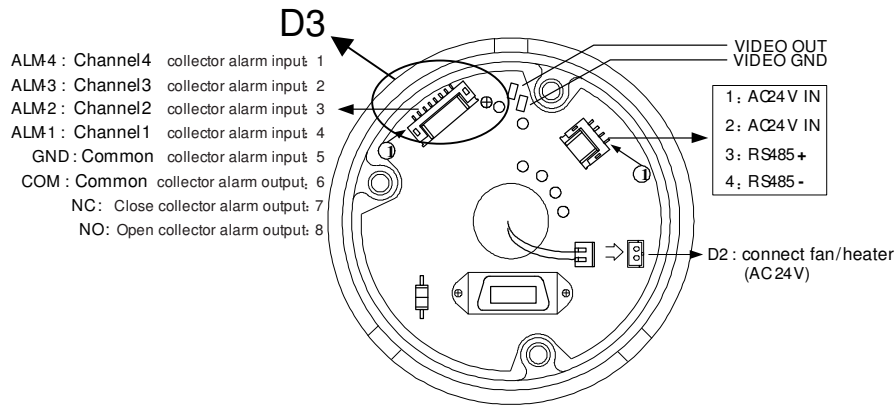
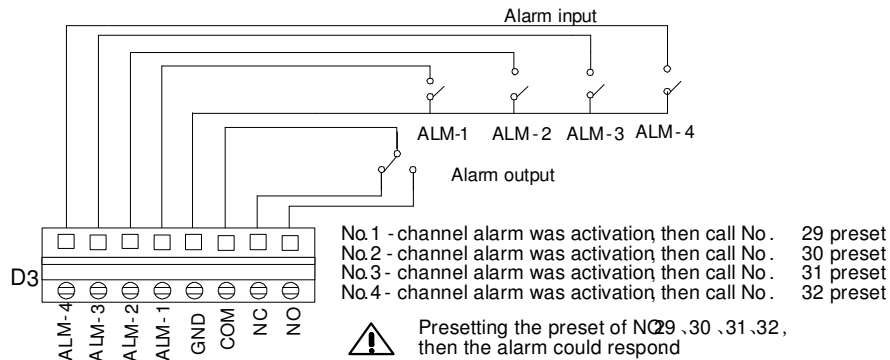

Figure 15-1
Figure 15-2
- 2) Insert attachment plug in aluminum alloy into socket D2 (Figure 15-1). According the fig of D3 to connection. As show of fig15-1, when dome identify the alarm signal, that will set according the program immediately, then startup camera, switching the image of alarm field to main monitor. Surveillance the alarm preset, then record it in time. Fig15-2 is connection of alarm control.